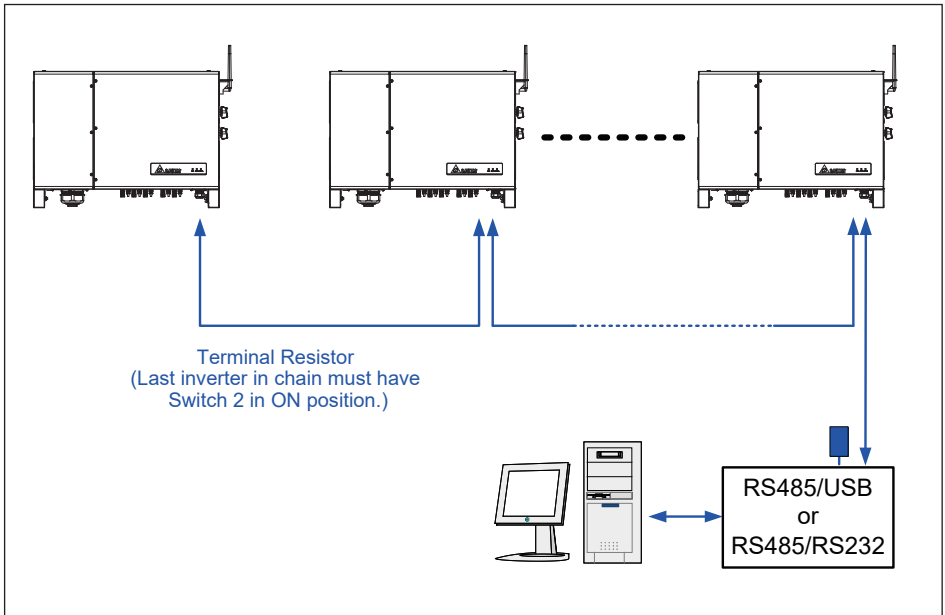

Figure 3-27: Multiinverter connection illustration
- When several inverters are cascaded (i.e., "daisy-chained") only the last inverter in the chain must have its bus termination resistor switched ON. Refer to **Figure 3-27**.